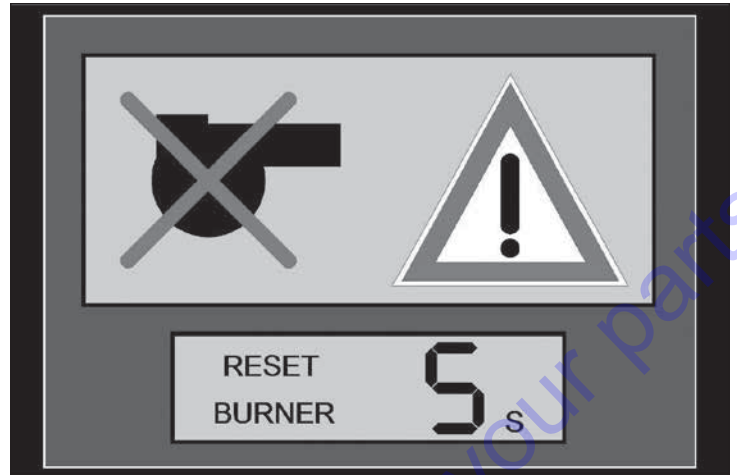

Figure 36
1. The start up process will be terminated and the control module will display the fault shown in Figure 36.